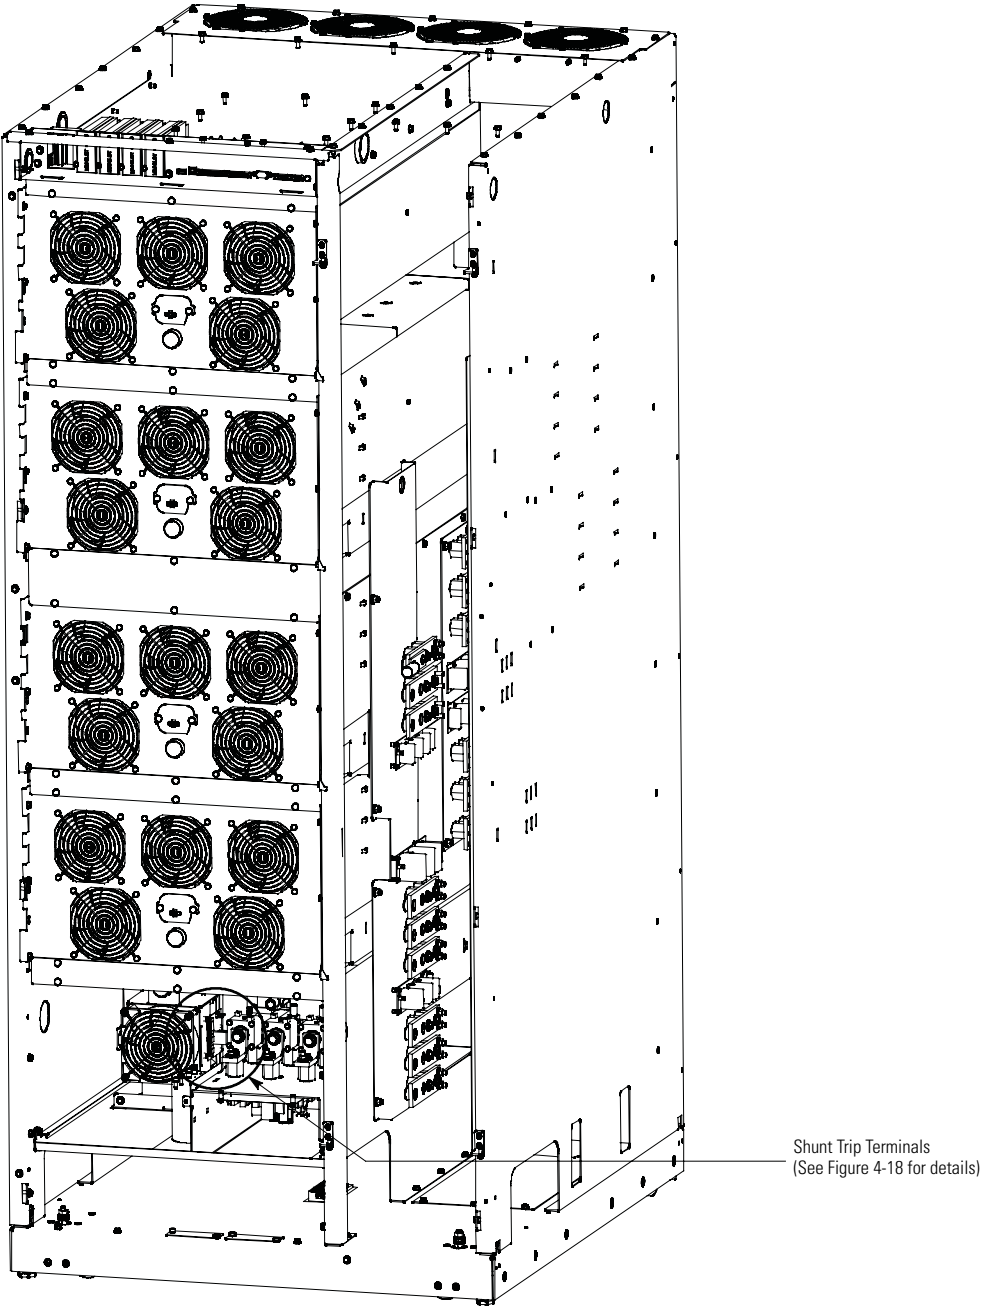
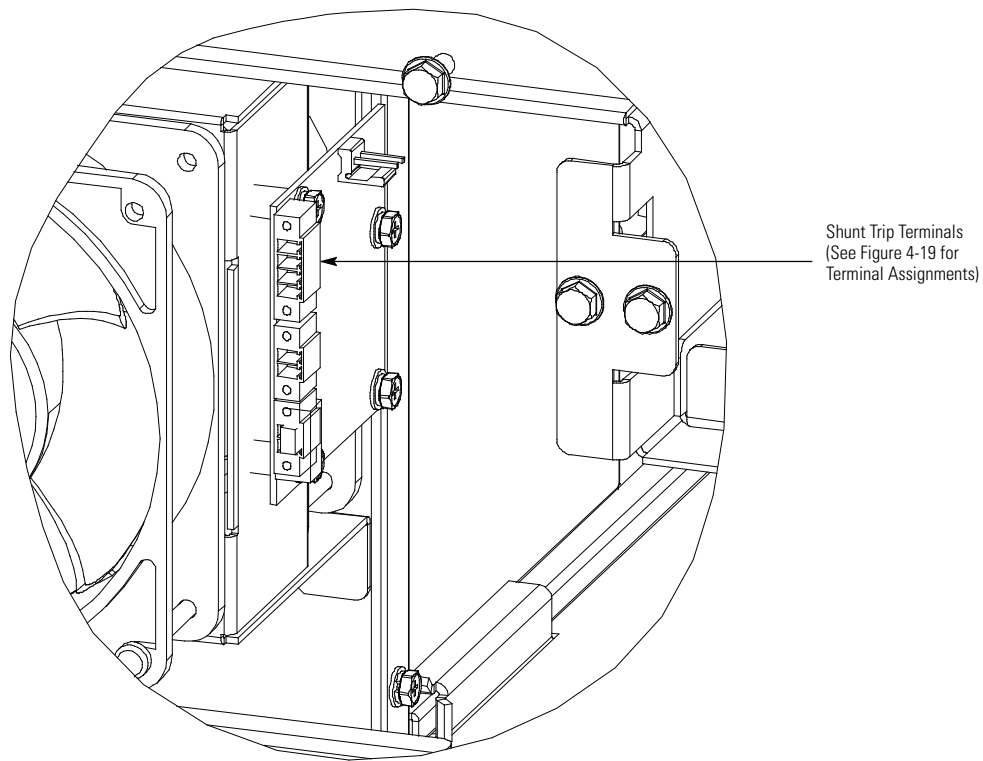

Figure 4-17. Battery Shunt Trip Locations
Figure 4-18. Battery Shunt Trip Terminal Detail
6. **Pass-through Wiring.** Route the battery shunt trip wiring from the battery cabinet through the bottom UPS inter-cabinet wiring access pass-through and static switch shelf bushing to the UPS battery shunt trip terminals. See Figure 4-6 for UPS wiring access information and Figure 4-17 and Figure 4-18 for UPS terminal locations. Refer to the *Eaton 93PM Integrated Battery Cabinet Installation Manual – Large and Large High Rate*, listed in paragraph 1.8 for battery cabinet wiring access information and instructions.
8. **Bottom Entry Wiring.** Route the battery shunt trip wiring from the battery cabinet or battery disconnect through the bottom of the UPS and static switch shelf bushing to the UPS battery shunt trip terminals. See Figure 4-5 for UPS wiring access information and Figure 4-17 and Figure 4-18 for UPS terminal locations. Refer to the *Eaton 93PM Integrated Battery Cabinet Installation Manual – Large and Large High Rate*, listed in paragraph 1.8 for battery cabinet wiring access information and instructions.
10. **Top Entry Wiring.** Route the battery shunt trip wiring from the battery cabinet or battery disconnect through the top of the UPS cabinet and the bottom UPS internal inter-cabinet wiring access pass-through and static switch shelf bushing to the UPS battery shunt trip terminals. See Figure 4-5 for UPS wiring access information and Figure 4-17 and Figure 4-18 for UPS terminal locations. Refer to the *Eaton 93PM Integrated Battery Cabinet Installation Manual – Large and Large High Rate*, listed in paragraph 1.8 for battery cabinet wiring access information and instructions.